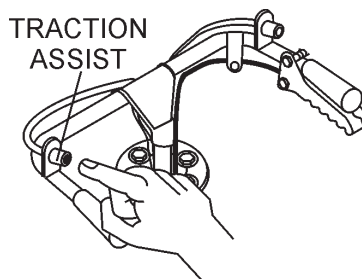

Figure 19. Traction Assist Switch
1. Press and hold the traction assist switch (Figure 19) on the left hand side of the handle bar to engage the traction assist system.